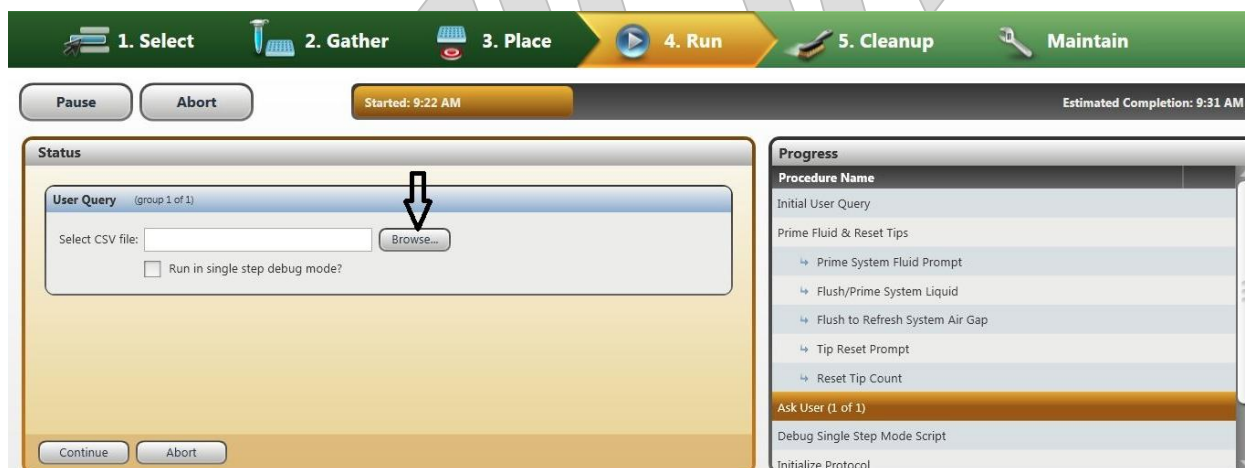

Figure 21: Selecting the CSV file
4.15. Another popup window appears as shown in Figure 21.